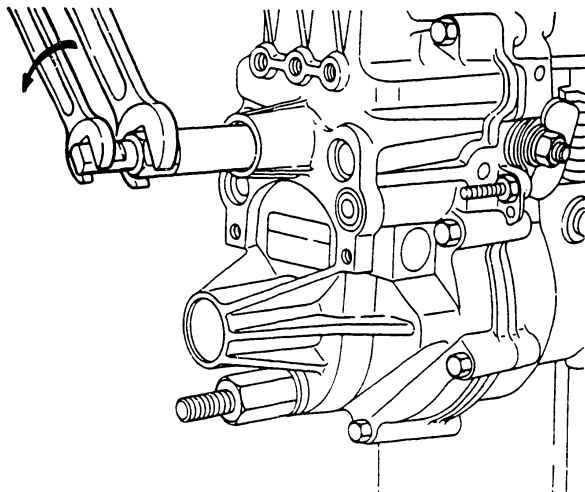

Fig. 100 Removing the governor shaft locknut
- 1) Remove the governor shaft plate (1), then loosen the locknut with the wrench (KDEP 2629). (Fig. 100).